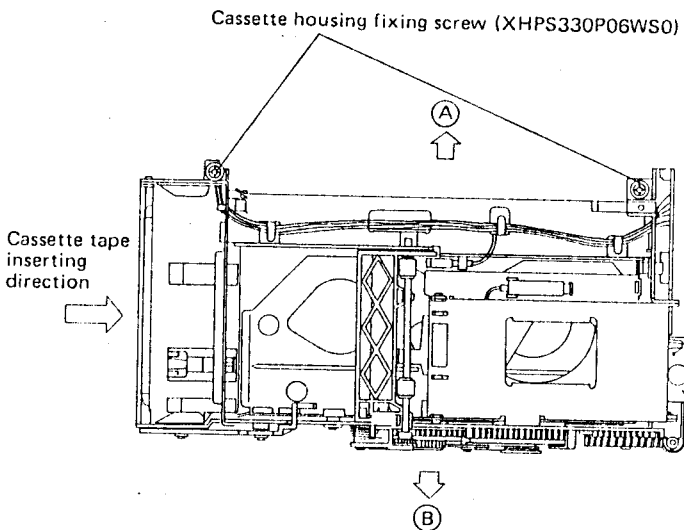

Figure 4.
- 4) Shift the cassette housing toward arrow (A) in the following figure 4 and take it out right above.